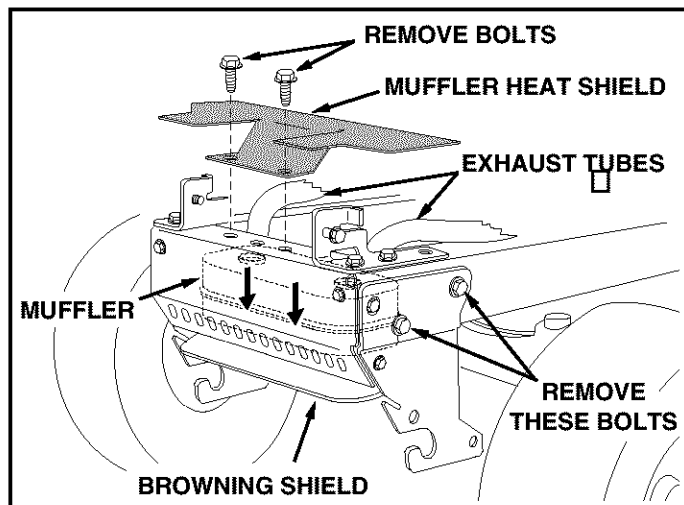

FIGURE 4
- **If bolts are secured by hex nuts** that you cannot reach, remove heat shield. For access to hex nuts, slide muffler down exhaust tubes to rest on top of browning shield. Replace muffler and heat shield after assembling bumper. See figure 4.